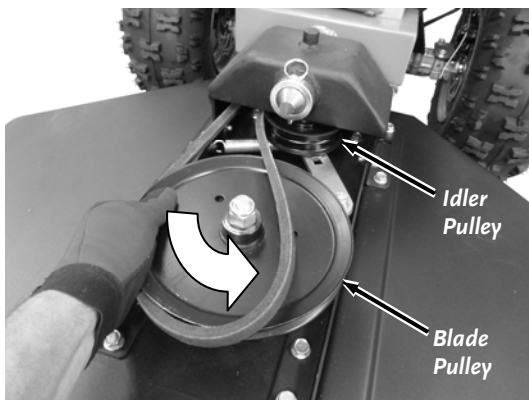

Figure 42
7. Start the Belt into the groove of the Blade Pulley and turn the Pulley as you guide the Belt around and into the Pulley groove (*Figure 42*).